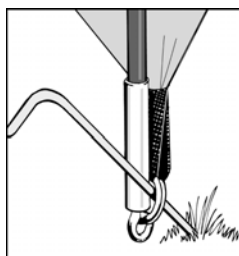

Figure 2.
- Peg each of the 4 corners of the inner tent through the ring, of the ring and pin system (see figure 2).
2. Peg the corners of the tent through the metal rings using pin-pegs. It is important to drive the peg into the ground at a 45 degree angle to obtain the best grip. **(See Figure 2)**.